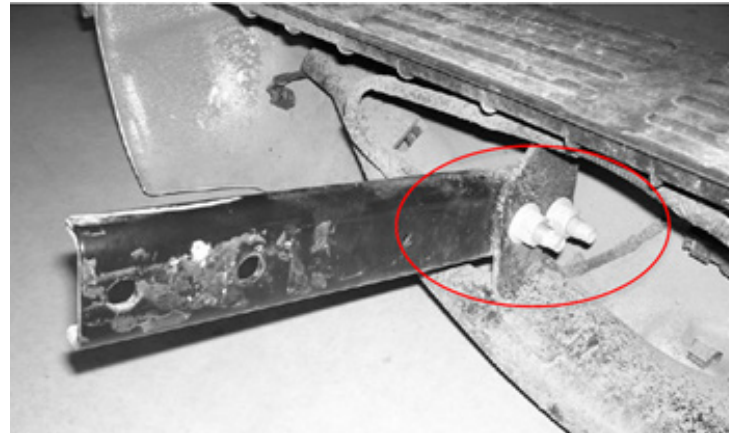

Figure 1
4. Using 19mm socket wrench and on the passenger side, remove the two (2) Oem bolts on the side of the frame rail end. (Figure 1)